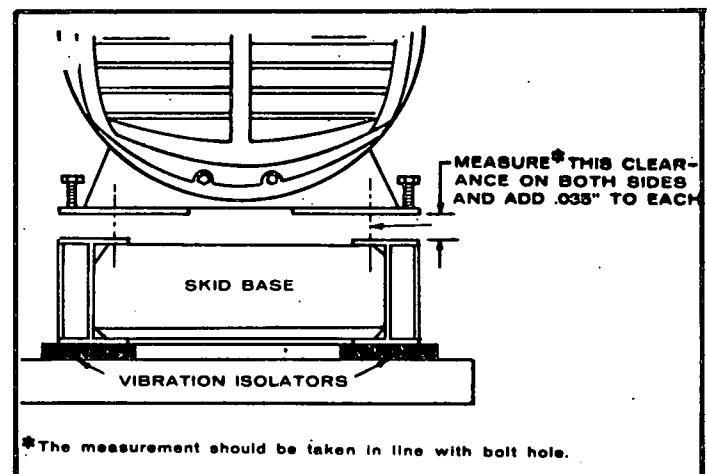

FIGURE 3.
2. Remove the tension from the jackscrews and allow generator to hang free. Using a feeler gauge or a dial indicator, measure the clearance from the top surface of the skid base to each generator support mounting surface (Figure 3). To this measured clearance, add .035 inches to each side of the skid base. This total clearance will determine the amount of shims required.